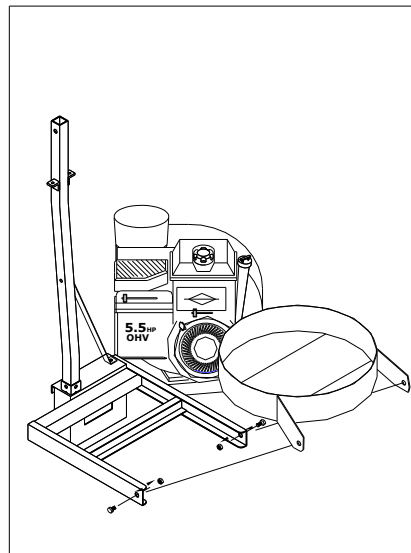

Fig. 5
5. Attach container holder (20) to frame with two 5/8" x 1" hexbolts and locknuts. Tighten bolts until ring supports the container (19) in a tilted position. **(Fig. 5)**